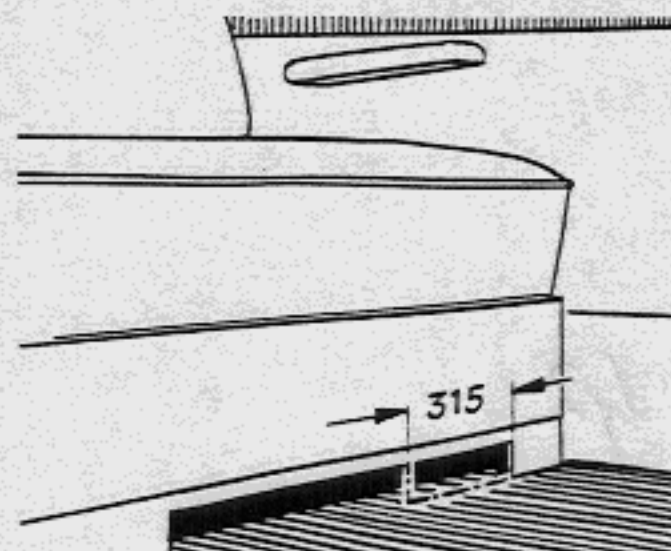

Fig. 14
- 17 - On the Micro Bus, the opening in the panel under the rear seat must be extended by 315 mm on the warm air outlet side (Fig. 14).